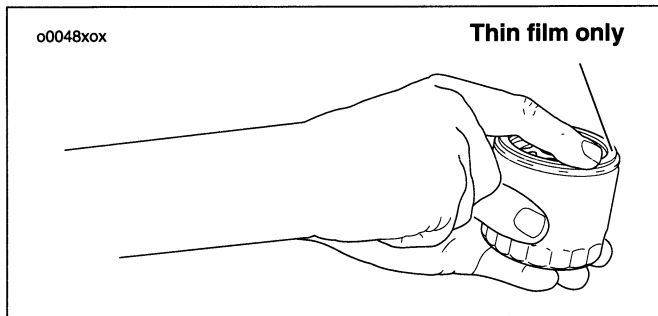

Figure 31. Applying Thin Film
5. See Figure 31. Apply a thin film of oil to gasket contact surface on mounting plate, gasket and new oil filter.